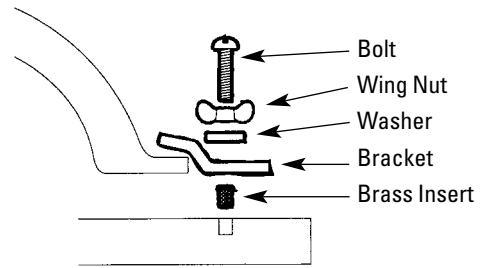

Figure 20
- Locate the holes 1" (25 mm) from the side edges of the bowl flange and away from the bowl's front and back edges to allow clips to clear the cabinet frame (see Figure 20).
- Assemble the undermount hardware (see Figure 20).